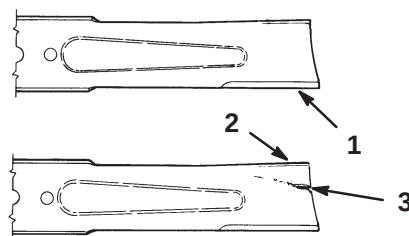

Figure 27
1. Inspect the cutting edges (Fig. 27). If the edges are not sharp or have nicks, remove and sharpen the blades; refer to Sharpening the Blades, page 25.
2. Inspect the blades, especially the curved area (Fig. 27). If you notice any damage, wear, or a slot forming in this area (item 3 in Fig. 27), immediately install a new blade.